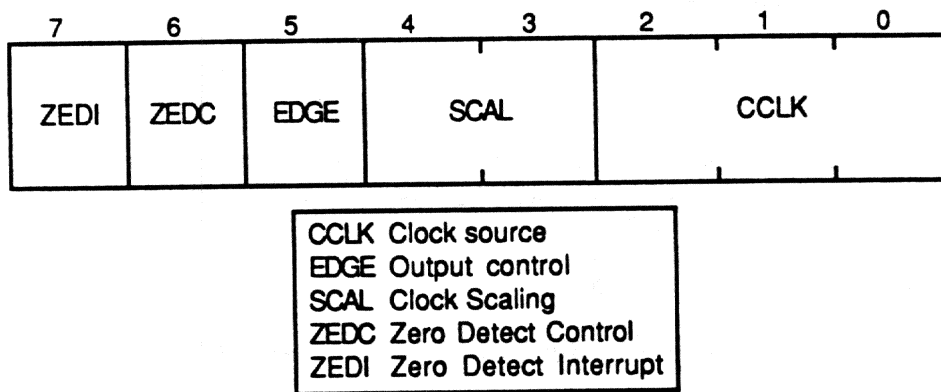

Figure 7-10: DUSCC Counter/Timer Control Register
7.2.10.2 Counter Timer Control Register (CTCR) - The overall control of the counter/timer is through the Counter/Timer Preset Register (CTCR). Figure 7-10 shows the format of the register, and Table 7-10 explains the value of each field.